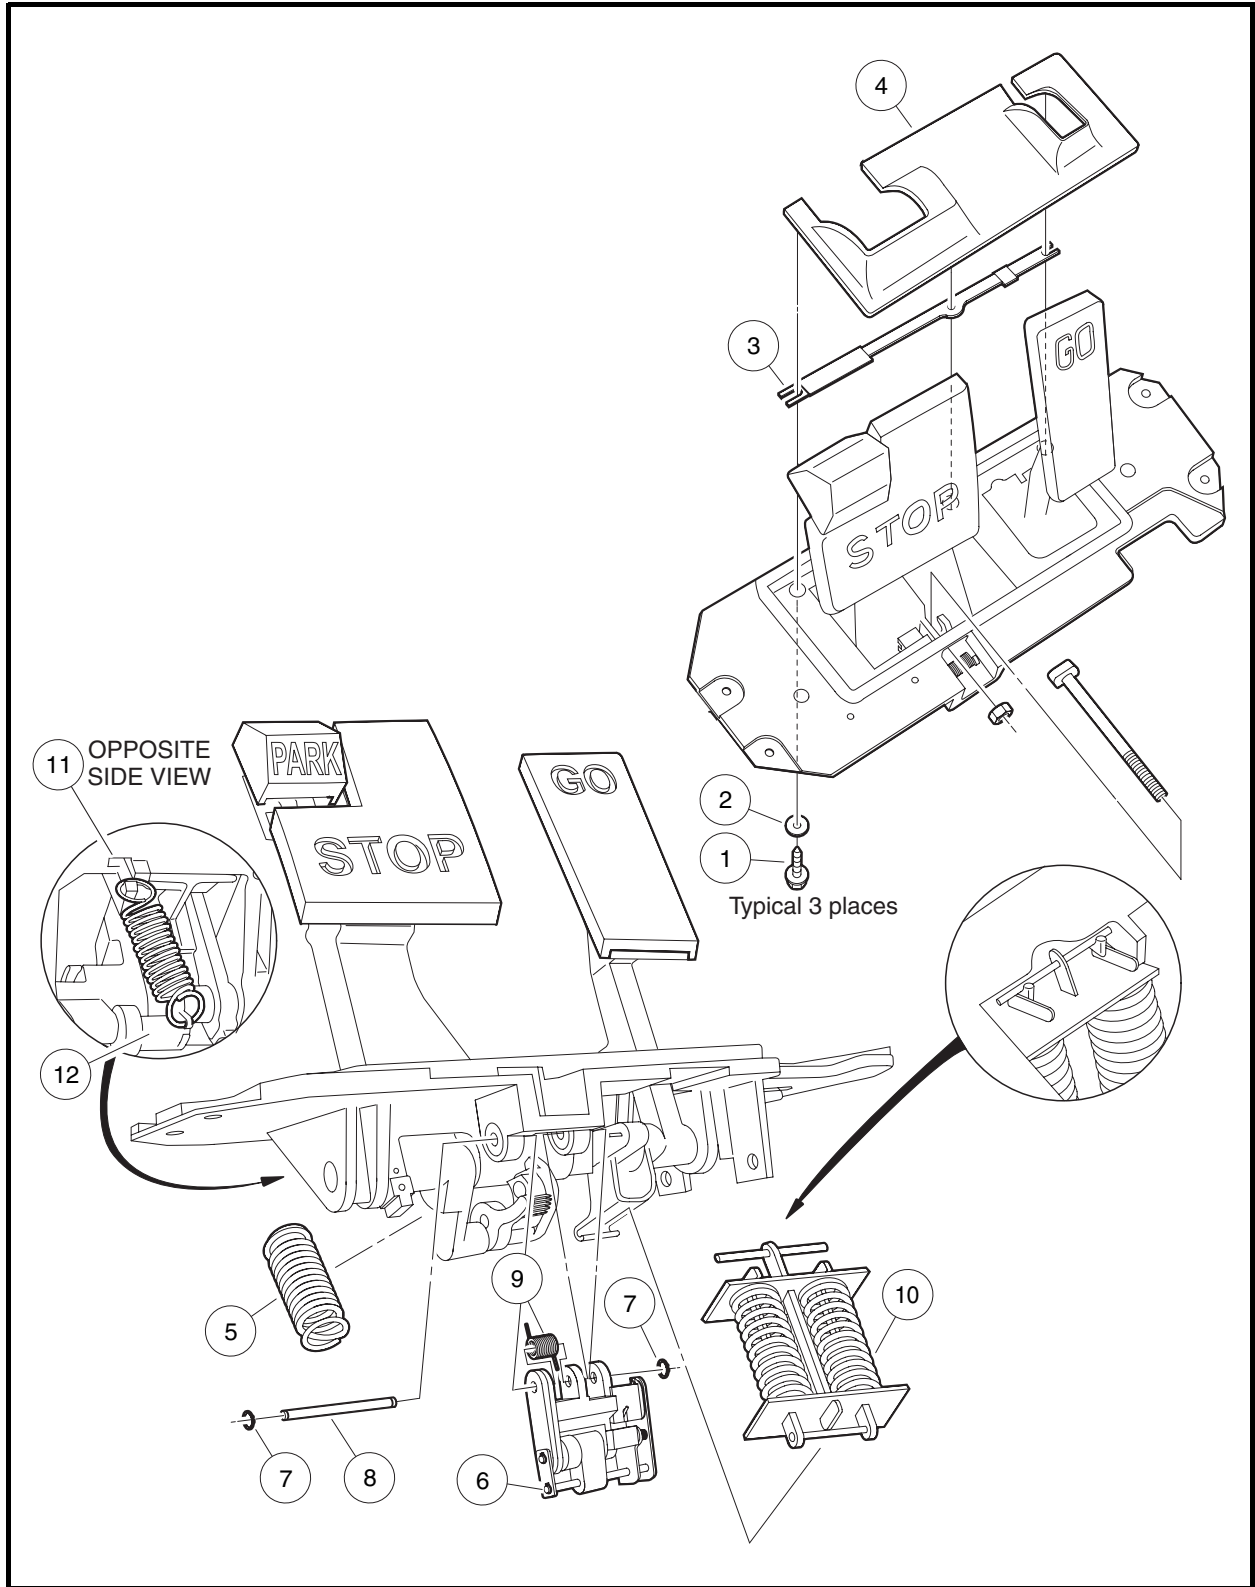

Figure 5-4 Pedal Group
Debris shields on the top face of the pedal group prevent excessive debris from contacting the moving parts of the pedal group. Both shields (3 and 4) are held in place with screws (1) and washers (2) (**Figure 5-4, Page 5-5**). When shields are replaced, tighten screws (1) to 53 in-lb (6 N·m).
The brake return spring (5) provides the pressure needed to return the brake pedal to its upright position (**Figure 5-4, Page 5-5**). One end of the spring attaches to a hook on pedal (11) and the other end attaches to pedal base (12).
The pawl assembly (6) serves to lock the brakes when the PARK pedal is pressed. The pawl assembly also releases the brakes when either the STOP or GO pedal is pressed (**Figure 5-4, Page 5-5**). The pawl assembly is serviced as a unit. The replacement unit includes two snap rings (7), pin (8), spring (9), and pawl unit (6). When replacing the unit, ensure spring (9) is properly positioned to be held in place when the pin (8) is installed. Secure the pin with two snap rings (7).
The accelerator return spring assembly (10) consists of two springs and three T-shaped bars secured by two crosspins (**Figure 5-4, Page 5-5**). The assembly is replaced as a unit. The replacement unit includes a pin that keeps the spring compressed so it can be installed in the pedal group. Replace the assembly as follows: